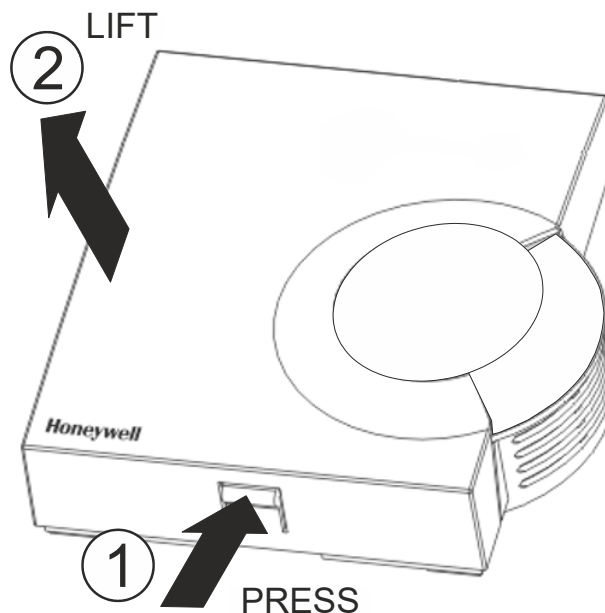

Fig. 2. Removing the cover
1. Remove the cover (see Fig. 2).